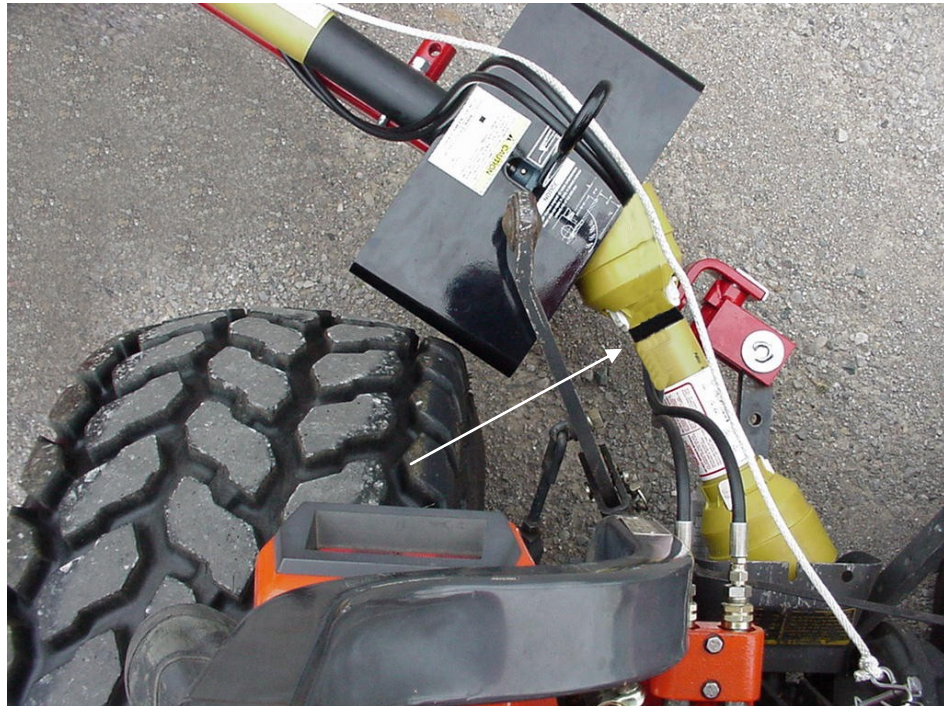

Figure 1
- b) Watch the PTO shielding to make sure the PTO shaft does not totally collapse. There should be 1" to 2" of black PTO shielding left at maximum turn. Fig. 1